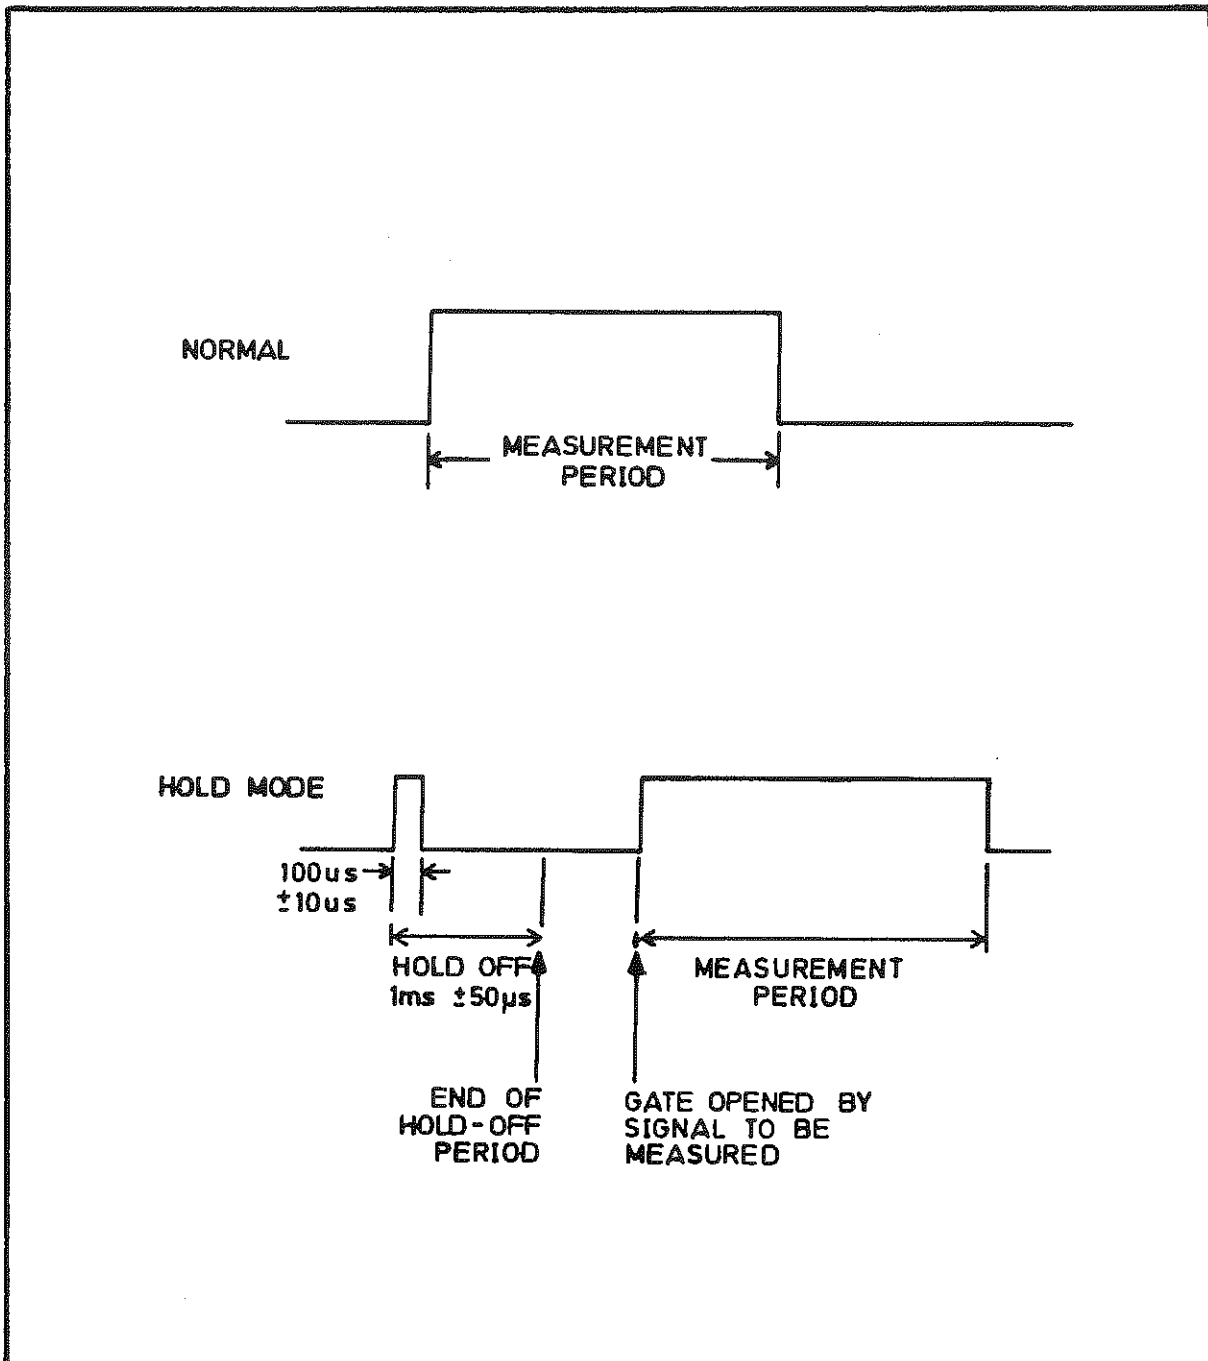

Fig. 4.1 Gate Output Waveforms
- 26 Typical gate waveforms are shown in Fig 4.1.